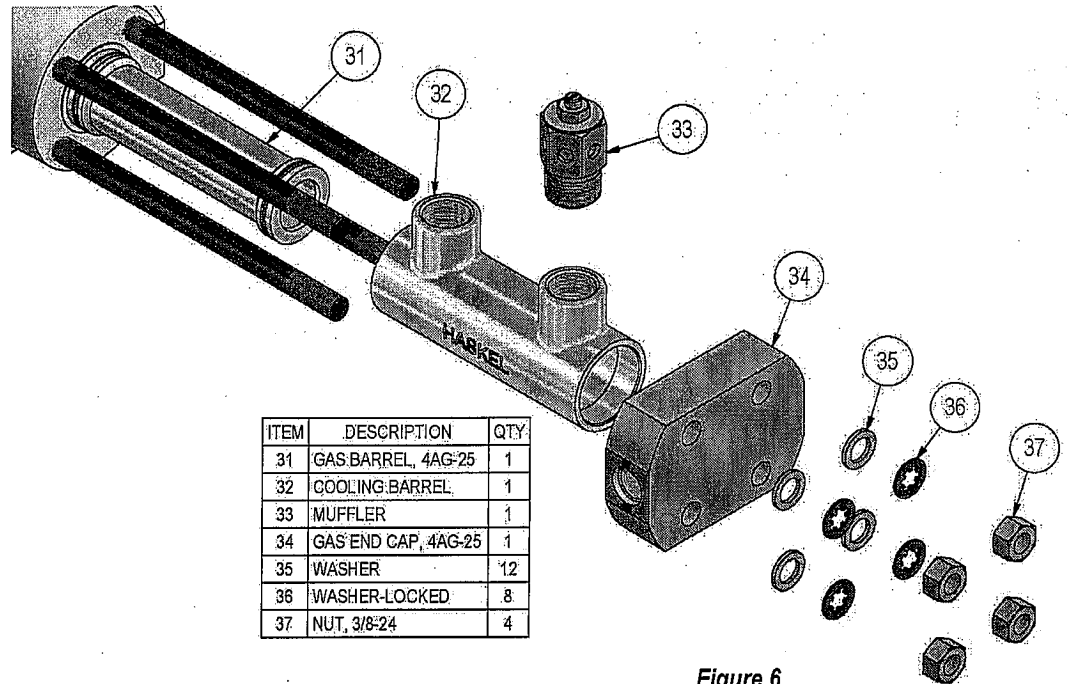
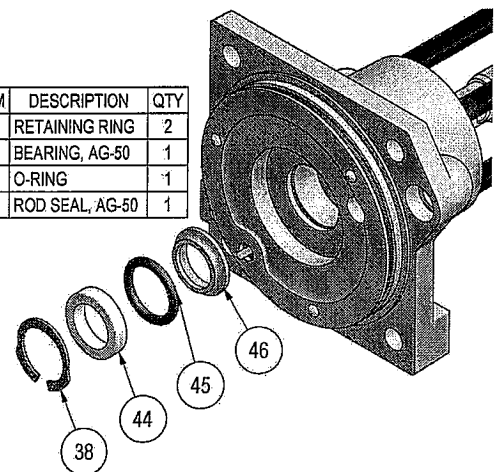

Figure 6
Figure 8
2.2.1 Gas Barrel (Refer to Figure 6 & 7)
- A. Unscrew the four nuts (37) & remove end cap (34).
- B. Gently remove cooling jacket (32) & gas barrel (31).
- C. To inspect rod bearing, remove retaining ring (38), then slide out the bearing (39) and the glider ring (40) along with the o-ring (41).
- E. There is also another bearing in the gas vent cap (44). Refers to Figure 8 for reference.